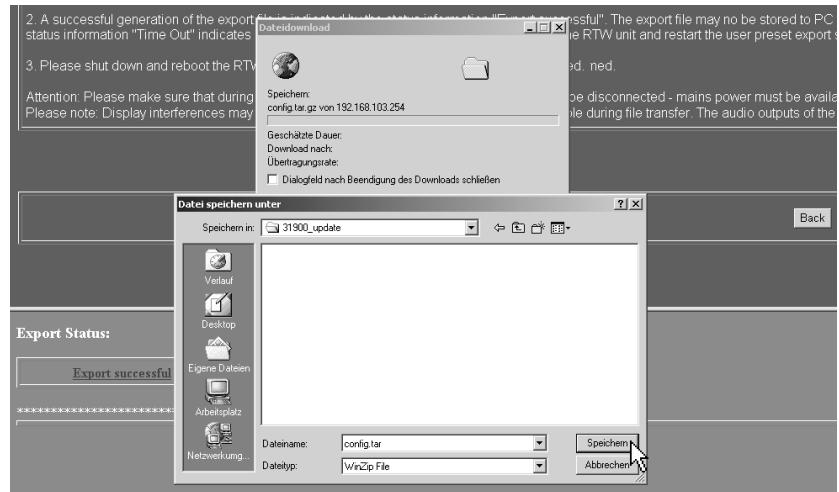

Fig. 8-17: Choose the folder for saving the export file
7. The **save file as** ("Datei speichern unter") dialog box is shown. Choose the folder (e. g. C:\31900_Update) for saving the export file config.tar.gz (see Fig. 8-17).